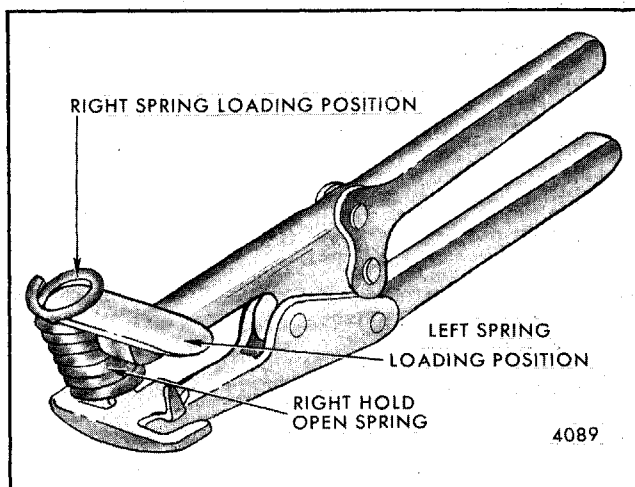

Fig. 5-90-Hold-Open Spring, Loading Positions Using Tool J-23497 or Equivalent - "X" Styles
2. Using spring compressing tool (J-23497 or equivalent), install hold-open spring in lower hinge (Figs. 5-90 and 5-91).
NOTE: When installing hold-open spring on tool J-23497 or equivalent, position spring so that the cut end of the spring is in line with the center of the blade on the straight jaw. Figure 5-90 illustrates position of spring for right side installation (left side installation would utilize the other end of the blade). The other end of the spring should be seated over the hook on the opposite jaw of the tool.